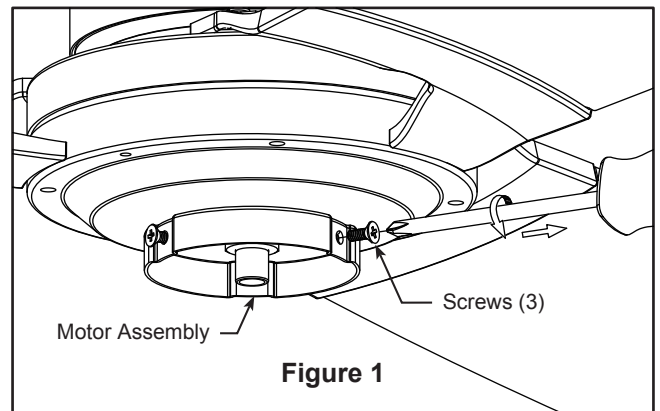

Figure 1
1. Remove the three screws in the adaptor plate at the bottom of the motor assembly. Retain the screws for Step 3. (Figure 1)
1. **IMPORTANT:** Using a full range dimmer switch (not included) to control fan speed will damage the fan. To reduce the risk of fire or electrical shock, do not use a full range dimmer switch to control the fan speed. (Figure 1)